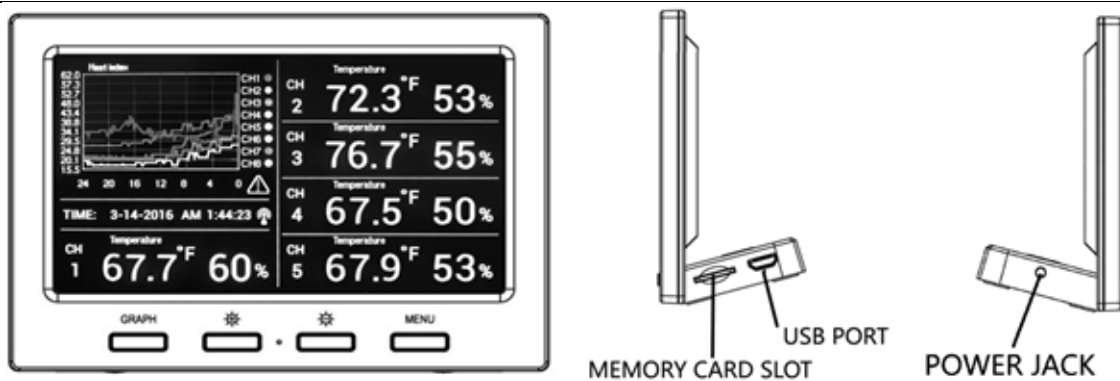

Figure 4
2. Connect the console to AC power with the included AC adapter (Figure 4).